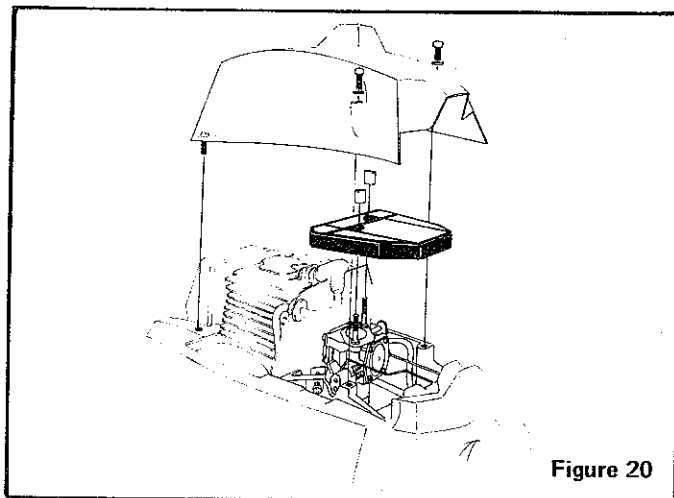

Figure 20
2. Remove the cylinder cover, then remove air filter. Fig. 20.